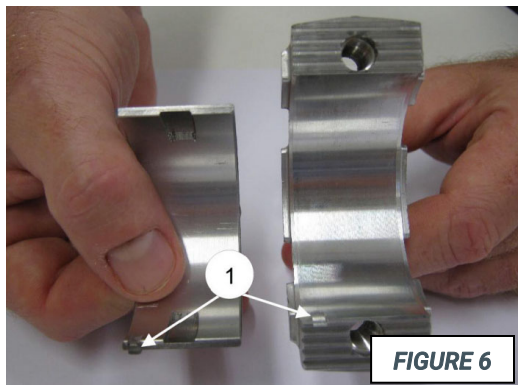
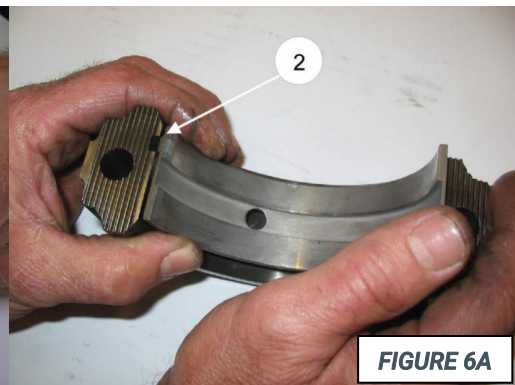

FIGURE 6
FIGURE 6A
1. Assemble the upper and lower bearing halves into the connecting rod and connecting rod half. Make sure that the reference marks on the upper bearing half (figure 6, item 1) and lower bearing half (figure 6A, item 2) are positioned in their respective seats.